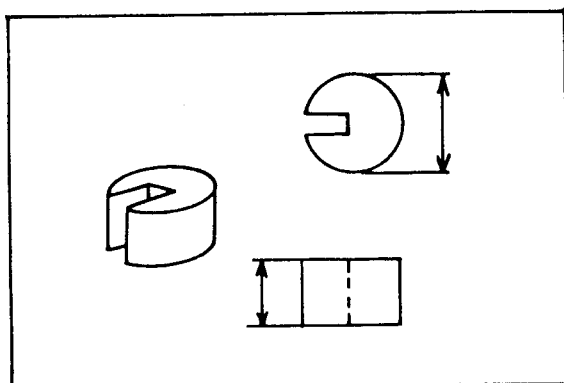

Figure 22
(1) Measure the height and diameter of the corner seal as shown in Figure 22.